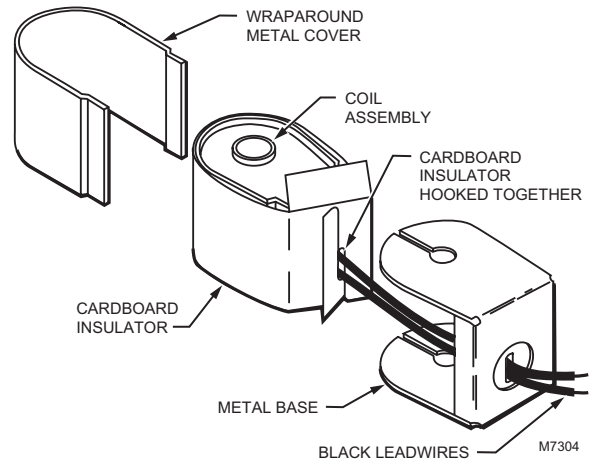

Fig. 15. Coil assembly, insulator, and cover.
- Snap out the wraparound metal cover and remove the metal base (Fig. 15). Save these parts for the replacement coil.
- Carefully unhook the cardboard insulator (Fig. 15) and remove it. Save the insulator for the replacement coil.
- Wrap the cardboard insulator around the new coil assembly and carefully hook it together around the two black leadwires (Fig. 15).
- Insert the two black leadwires through the opening in the metal base, and insert the new coil assembly into the metal base (Fig. 15).
- Snap the wraparound metal cover into place around the new coil assembly (Fig. 15).